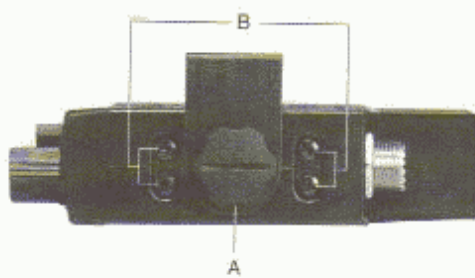

Figure 1
■ To remove the Top and Bottom Cover (Figure 1)
- Remove two mounting screws (A).
- Remove four screws (B) from each side of the top and bottom covers.
(Figure 1)
| 1 | VCO Voltage Adjustment Frequency : 136.00 MHz MIC : Receive Volume : Optional Squelch : Optional | DC Voltmeter To TP1 (Figure 1) | TP1(VCO) | 0.6V ~ 0.9V (DC) |